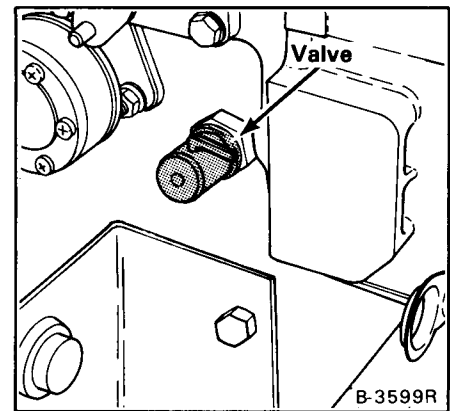

Fig. 53 Removing Coolant
The valve to remove the coolant is on the left side of the engine block (Fig. 53). To remove the coolant:
1. Close the drain valve (Fig. 53).